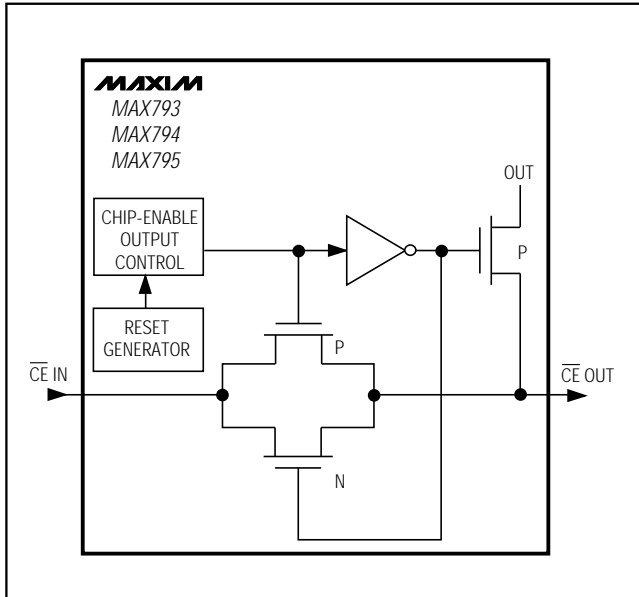

Figure 7. Chip-Enable Transmission Gate
Internal gating of chip-enable (CE) signals prevents erroneous data from corrupting CMOS RAM in the event of an undervoltage condition. The MAX793/MAX794/MAX795 use a series transmission gate from  $\overline{CE}$  IN to  $\overline{CE}$  OUT (Figure 7). During normal operation (reset not asserted), the CE transmission gate is enabled and passes all CE transitions. When reset is asserted, this path becomes disabled, preventing erroneous data from corrupting the CMOS RAM. The short CE propagation delay from  $\overline{CE}$  IN to  $\overline{CE}$  OUT enables these  $\mu$ P supervisors to be used with most  $\mu$ Ps. If  $\overline{CE}$  IN is low when reset asserts,  $\overline{CE}$  OUT remains low for typically 10 $\mu$ s to permit completion of the current write cycle.